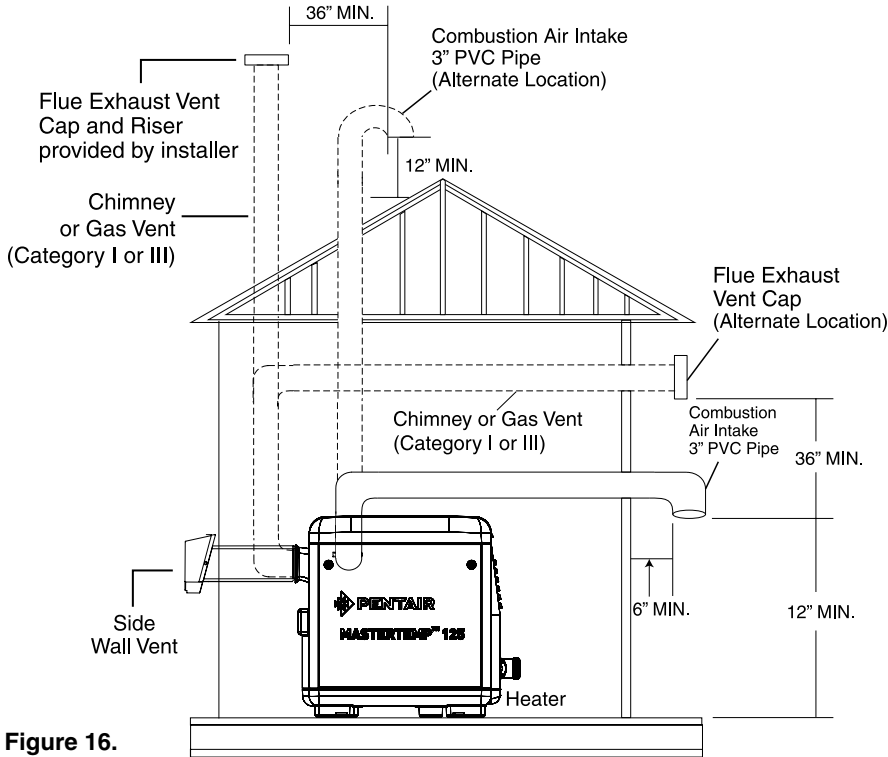

Figure 16.
**Note: For indoor installations where combustion air might be insufficient, see “Direct Air Intake Duct with 3-inch PVC Pipe (Indoor Installation)” Figure 16 on page 21.**
The air intake opening **MUST** be installed at least 1 ft. above the roof line or normal snow levels for free air flow. The Category I or III exhaust vent termination cap must have at least 3 ft. minimum vertical clearance from air intake duct, see Figure 16.